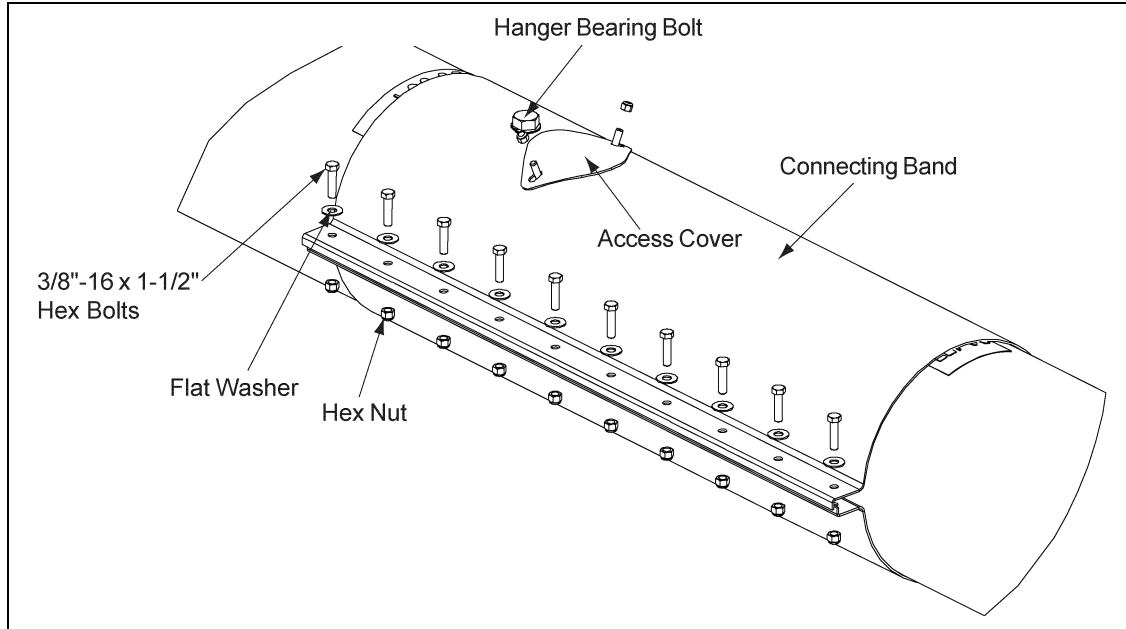

Figure 4U
- E. With Hanger Bearing secured bolt connecting band to tubes using the 3/8" -16 x 1-1/2" Hex Bolts and attach Access Cover using included Nylock Nuts. (See Figure 4U).